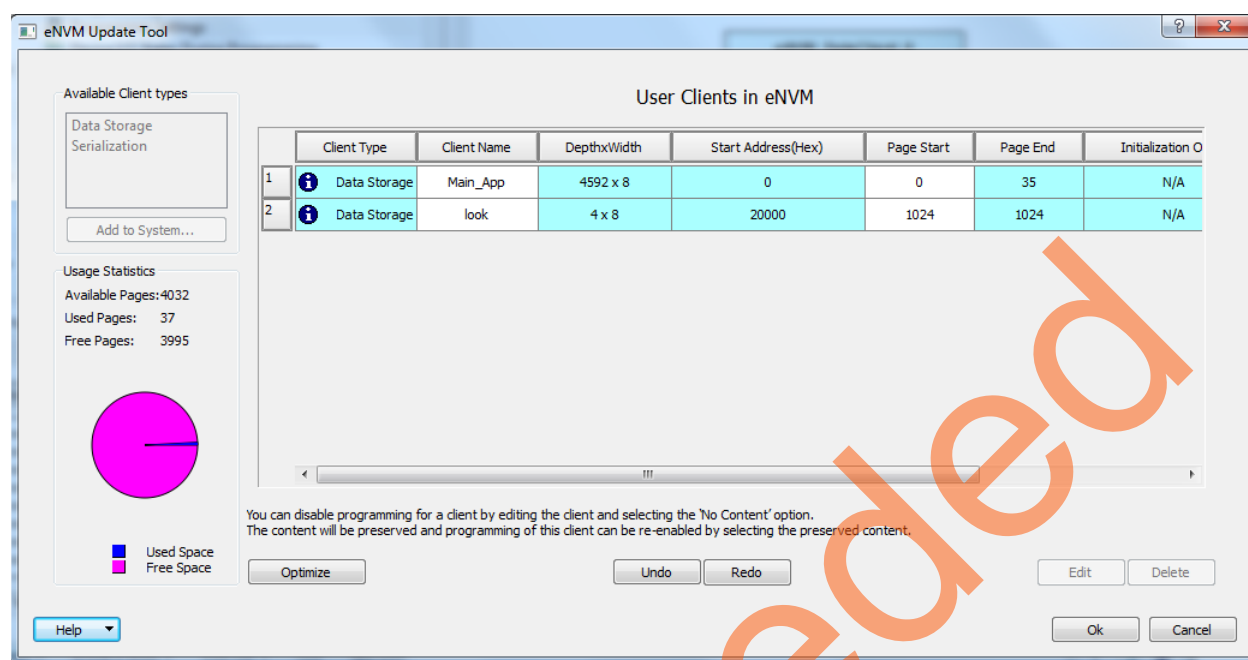

Figure 24 • eNVM Memory Content Window
2. Update the **eNVM Memory Content** window as shown in Figure 24.